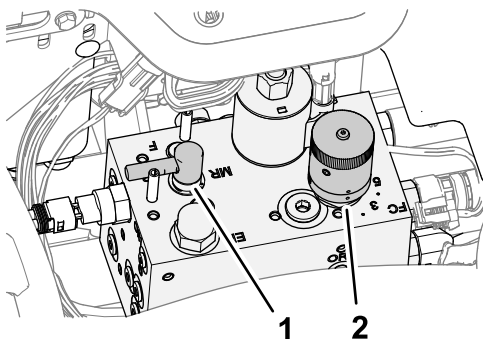

Figure 94
4. Move the backlap lever to the R (backlap) position (Figure 94).